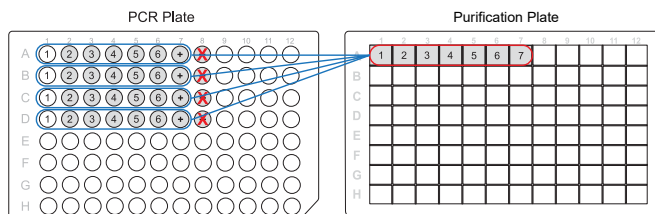

Figure 3 PCR Plate is on left. Purification Plate is on right. Negative control is not pooled.
- b. Use a multichannel P200 pipette set to 100 µL to pool the 4 PCR reaction for each sample. Transfer 4 x 100 µL of each sample from the **PCR Plate** into the corresponding well of the **Purification Plate**. (Figure 3.)